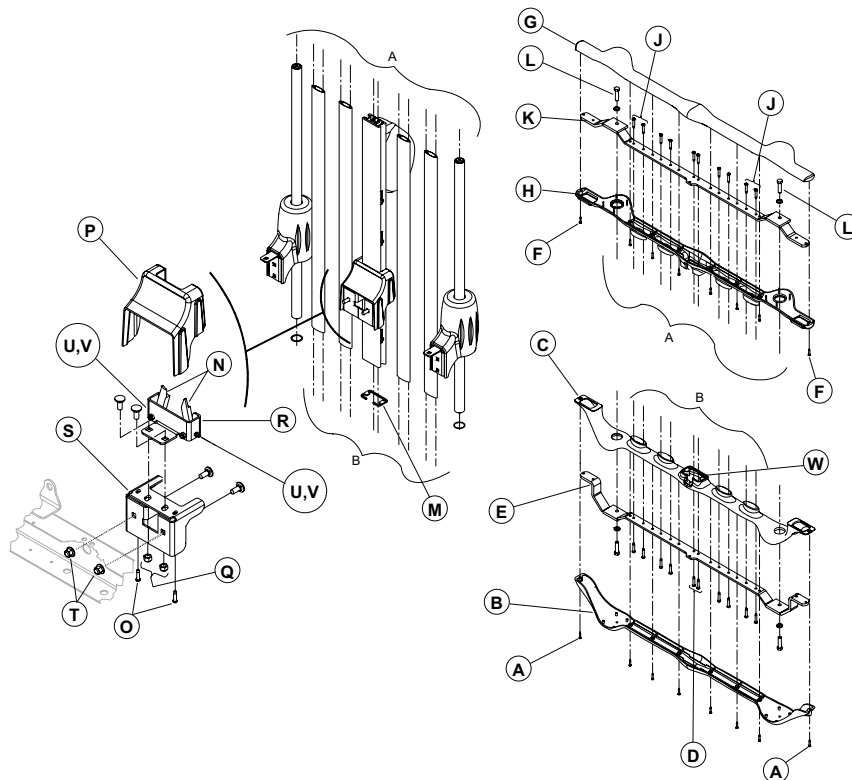

Figure 27 – Endrail central column replacement
4. Using a #1 Phillips screwdriver, remove the eight screws (A) that secure the bottom half of the lower plastic cover (B) to the top half of the lower plastic cover (C) (Figure 27). Save the screws.
6. Using a #2 Phillips screwdriver, remove the two screws (D) that secure the lower end of the central column to the lower structural member (E) (Figure 27). Save the screws.
7. Using a #1 Phillips screwdriver, remove the eight screws (F) that secure the top half of the upper plastic cover (G) to the bottom half of the upper plastic cover (H) (Figure 27). Save the screws.
11. Using a cordless drill and a #2 Phillips bit, remove the 14 screws (J) that secure the upper end of the posts and the central column to the upper structural member (Figure 27). Save the screws.
12. Using a 1/2" socket, remove the two bolts and two washers (L) that secure the upper end of the two guide posts to the structural member (K) (Figure 27). Save the bolts and washers.
16. Install the new column. Insert the bottom end of the central column into the brake shoe and slide the column until the bottom is seated in the cavity (W) of the lower plastic cover. Use caution to avoid damaging the seal while you insert the column into the lower plastic cover. While the column slides through the brake shoe, rotate the handle to open the lock stops (N) when the column reaches each of the fixed stops (Figure 27).
20. Using a #2 Phillips screwdriver, remove the two screws (O) that secure the brake shoe cover (P) to the brake shoe support (S). Remove and save the cover (Figure 27).
21. Using a 1/2" socket, loosen the two locknuts (Q) that secure the brake shoe (R) to the brake shoe support (S). Remove the two locknuts (T) that secure the brake shoe support to the frame (Figure 27).
22. Move the brake shoe back and forth (head end to foot end) and the brake shoe support left to right to position the stop catches (N) (Figure 27). Tighten the locknuts.
23. If the stop catches still rub on the plastic extrusion, loosen the locknut (U) using a 3/8" combination wrench. Turn the adjustment screw (V) using a 3/32" Allen wrench until the proper alignment is achieved (Figure 27).
4. Using a #1 Phillips screwdriver, remove the eight screws (A) that secure the bottom half of the lower plastic cover (B) to the top half of the lower plastic cover (C) (Figure 27).
6. Using a #2 Phillips screwdriver, remove the two screws (D) that secure the lower end of the central column to the lower structural member (E) (Figure 27).
7. Using a #1 Phillips screwdriver, remove the eight screws (F) that secure the top half of the upper plastic cover (G) to the bottom half of the upper plastic cover (H) (Figure 27).
11. Using a cordless drill and a #2 Phillips bit, remove the 14 screws (J) that secure the upper end of the posts and the central column to the upper structural member (Figure 27).
12. Using a 1/2" socket, remove the two bolts and two washers (L) that secure the upper end of the two guide posts to the structural member (K) (Figure 27).